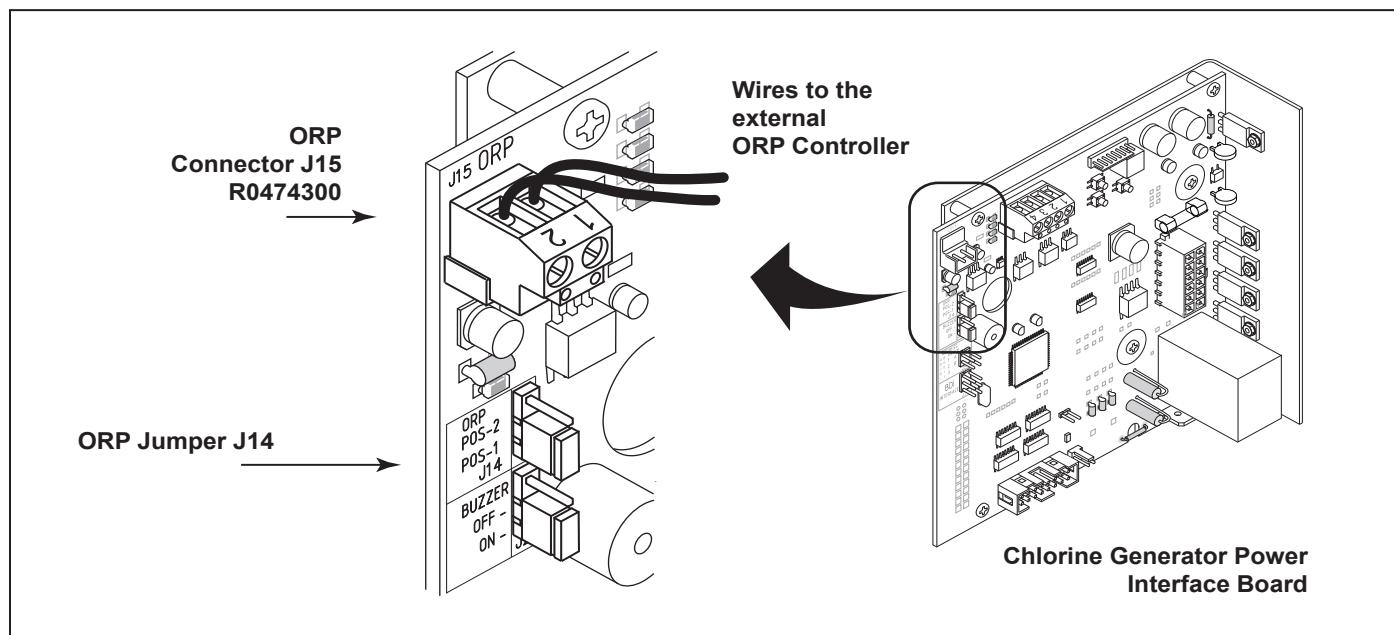

Figure 17. Movable ORP Jumper J14
An external device such as an ORP (Oxidation Reduction Potential) controller supplying 24 Volts AC can be used to control the output of the chlorinator. The chlorinator control board can be set up in the field to operate in two (2) different modes. The mode of operation is determined by the position of a movable jumper J14. See Figure 17 for location.
- POS-1** Wait at least one (1) minute after applying power. See note 1.